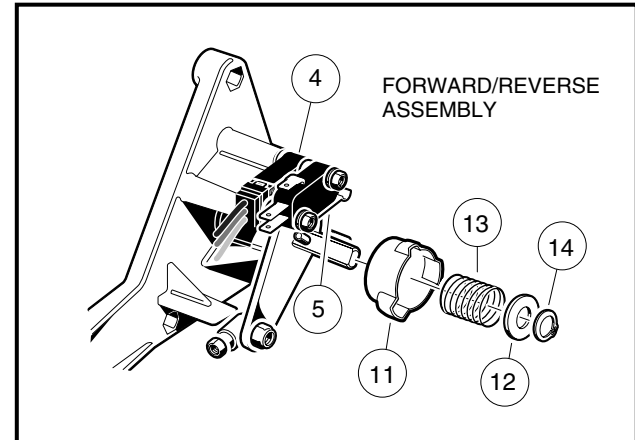

Figure 12-22 Lockout Cam
3. Remove the external snap ring (14) (**Figure 12-22, Page 12-18**).
4. Remove the plastic washer (12) and the spring (13).
5. Remove the cam (11).
1. Install the cam (11) (**Figure 12-22, Page 12-18**).
2. Install the spring (13) and the plastic washer (12).
3. Install the external snap ring (14) into the groove on the shaft. The lockout limit switch should be activated only when the Forward/Reverse handle is in NEUTRAL.